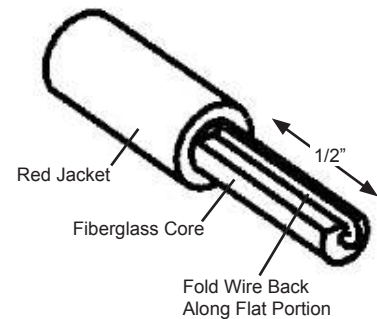

Fig. 2
3. Using sharp knife, strip away a flat spot on remaining 1/2" portion of fiberglass core approximately as deep as wire diameter (.025"). Cut exposed wire length to approximately 1/2" and lightly strip away thin coating on copper wire. Fold wire back along flat spot in fiberglass core (Fig. 2).